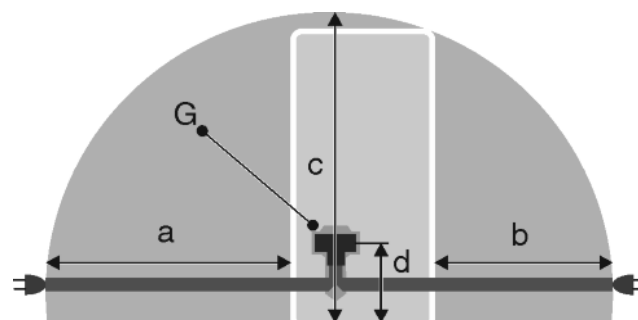

Fig. 20
- The socket is outside the back of the appliance area in the specified area *Fig. 20 (a, b, c)*.
- ▶ Insert the appliance plug *Fig. 20 (G)* into the back of the appliance. Ensure that it clicks into place.